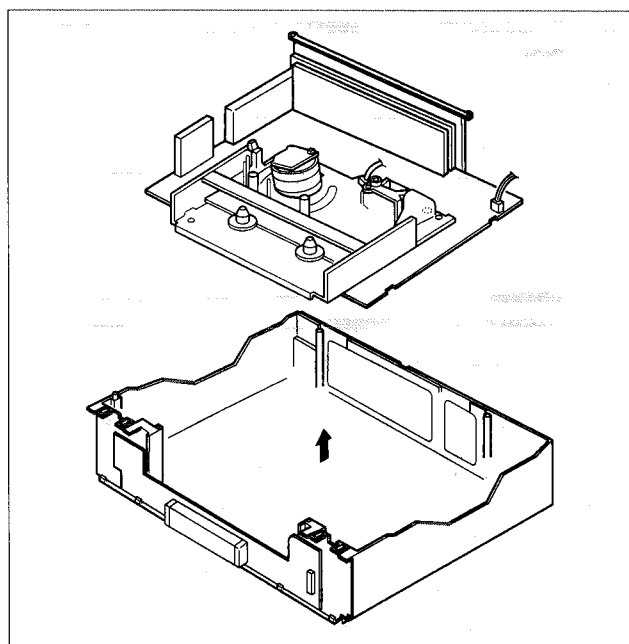

Fig. 1-4-5
- (6) Remove the Main board and Mechanism assemblies together while holding the edge of the Main board assembly. At this stage be careful of the power cord and prongs of the jacks on the back side. (See Fig. 1-4-5.)